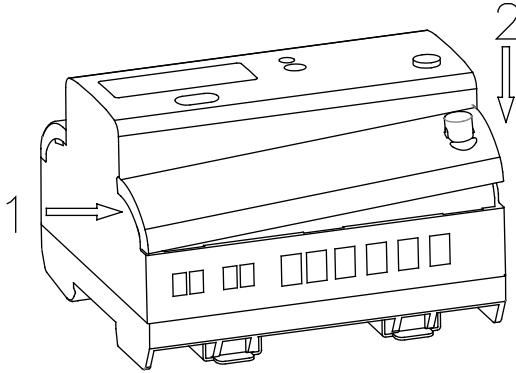

Figure 2-6 Attaching terminal cover onto meter
2. To attach the bottom terminal cover back onto the meter, place the left side of the cover down into the groove first and then press down onto the right side, see Figure 2-6. When installed correctly, you will hear a clicking sound. To attach the top cover place the right side of the cover down into the groove and press down onto the left side.